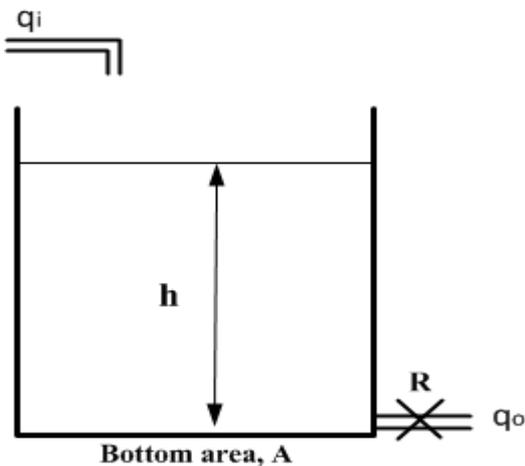

Figure 1
- 1.1. Consider the system in Figure 1 where A is the cross-sectional area of the tank.